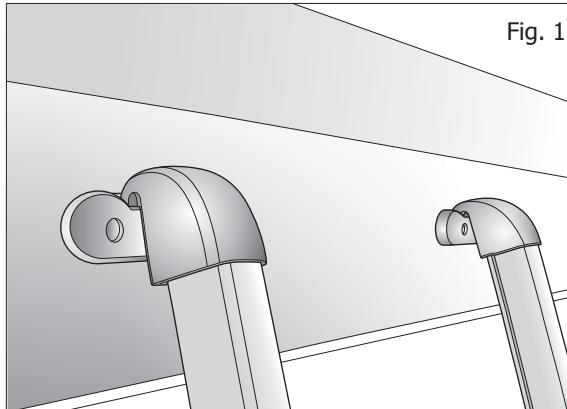
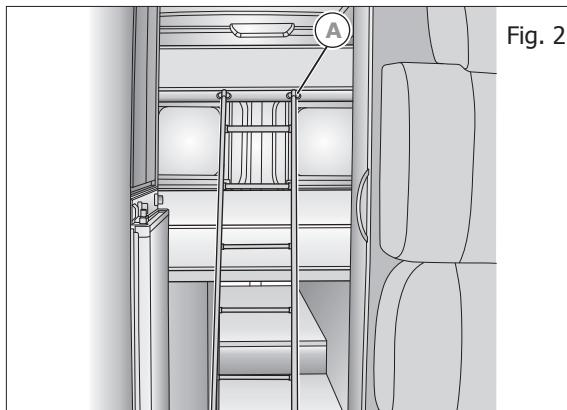

Fig. 1
Fig. 2
- To access the upper beds, hook the ladder (Fig. 1) to supports **A** located on the front of the area you want to access (Fig. 2).